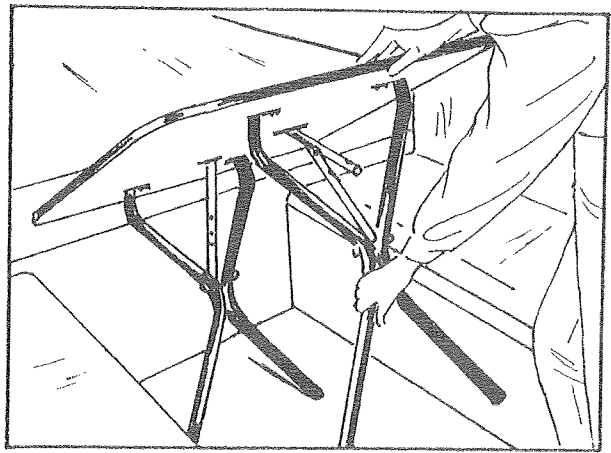

FIGURE 25
31. Extend the table legs completely so that both leg supports lock into position. Set table upright and check to insure it is stable. (See Figure 25.)
13. Secure the dinette table by locating it on the rests between the bench seats. See Figure 25.